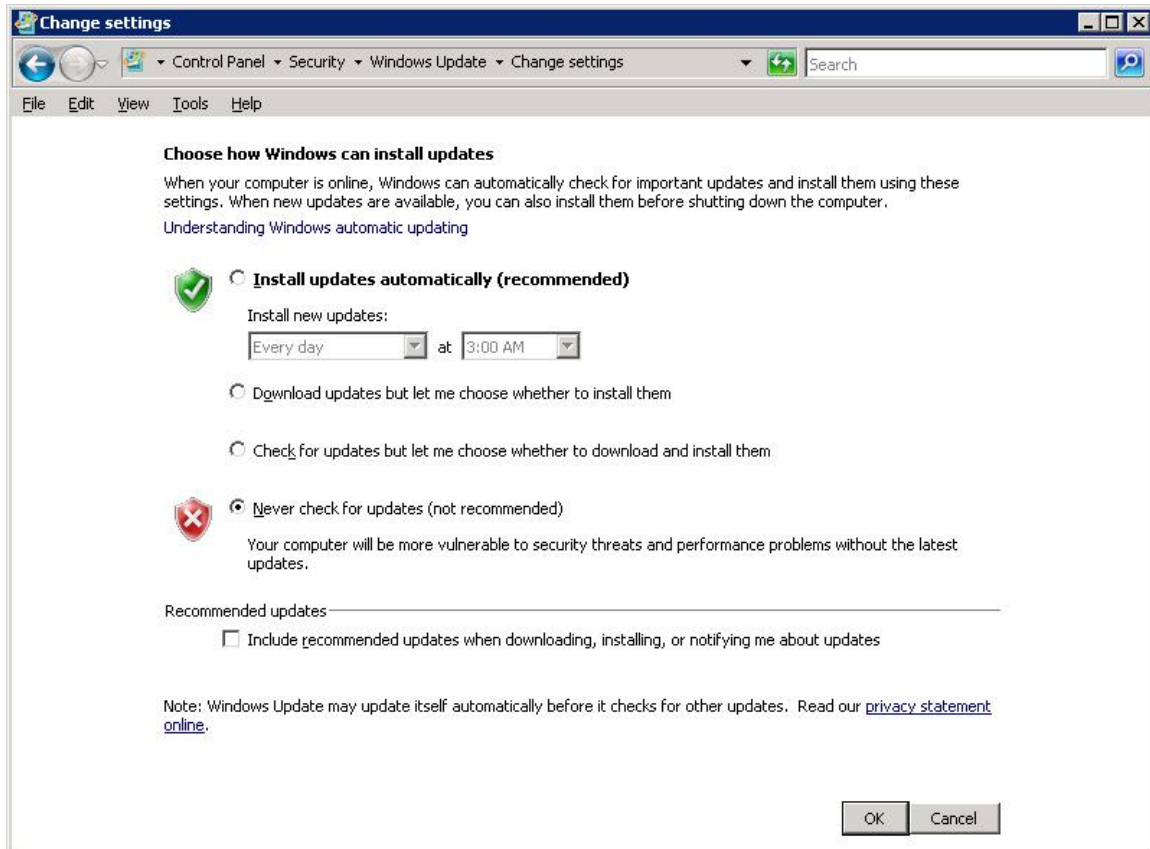

Figure 3-6: Windows Update – Change Settings
2. Under the *Important Updates* section, select **Never check for updates**, as shown in Figure 3-6.